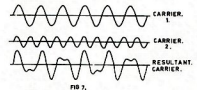

FIG 7.—The combination of two carriers to form a resultant which is amplitude and phase-modulated.
Consider two carrier waves slightly different in amplitude and frequency. The resultant of these two waves is shown in Fig. 7. There are two types of variation in this signal as compared to carrier 1. They are: (1) amplitude, (2) phase.